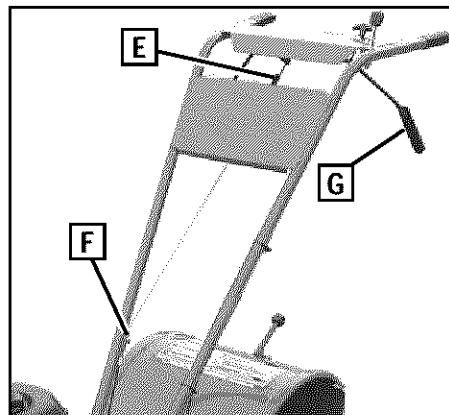
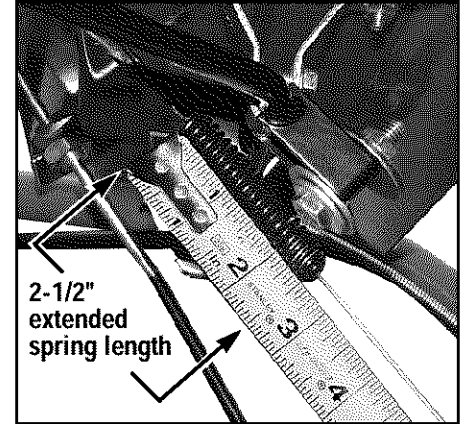

Figure 5-10: Location of forward clutch cable spring (E) and forward cable adjuster (F).
Figure 5-11: Correct spring length when Forward Clutch Levers are engaged is 2-1/2".
2. The coiled part of the forward clutch spring (E, Figure 5-10) measures 2" in length when the Forward Clutch Control levers (G) are not pulled up. Pull either Forward Clutch Control Lever up against the handlebar and measure the length of the extended coil. Tension is correct if the length of the extended coil is 2-1/2" (see Figure 5-11). The forward clutch control cable needs adjustment if the extended length of the coil is not 2-1/2". See *Adjusting the Forward Clutch Belt* for a procedure.
2. Belt adjustments are done with the forward clutch cable adjuster (F, Figure 5-10). Use two 1/2", open-end wrenches to loosen the two jam nuts (A, Figure 5-12) a few turns.
4. Hand tighten the jam nuts and pull the Forward Clutch Control levers up against the handlebar. Measure the spring coil (Figure 5-11). The extended length of the coil should be 2-1/2". Repeat this procedure until the extended spring length is correct.